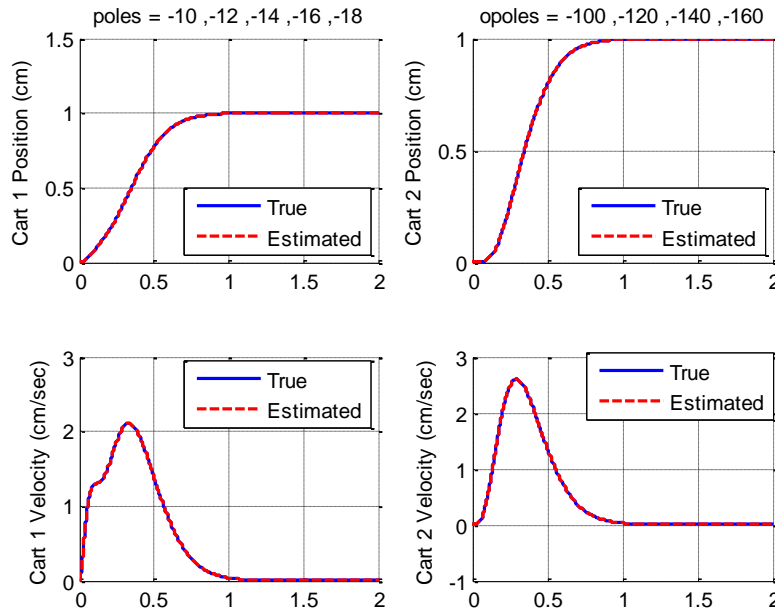

Figure 22: Using an observer to improve a Type 1 state feedback, full order observer for a 2DOF system with a bad model
- Now change the observer poles to be 10 times larger than before ($10 \cdot p_o$). You should get the figure like that in Figure 22.